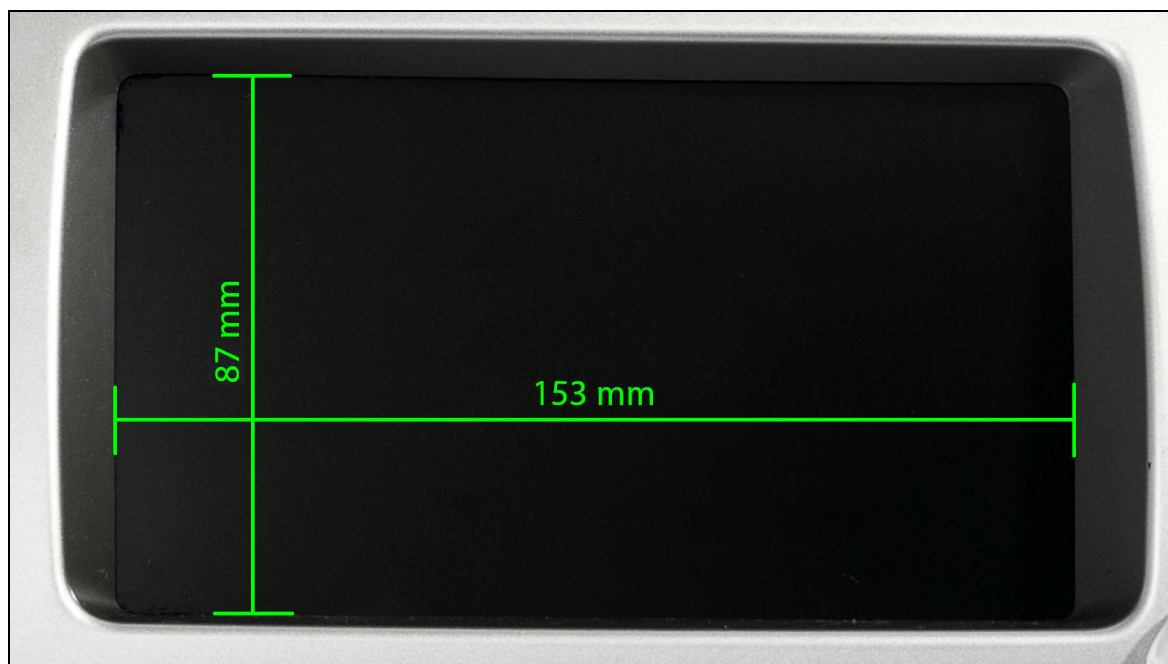

Figure 6
1. Measure the visible display surface width and height using a ruler or calipers. The visible display surface – is the portion of display surface, which is not obstructed by the plastic frame (**Fig. 6**).